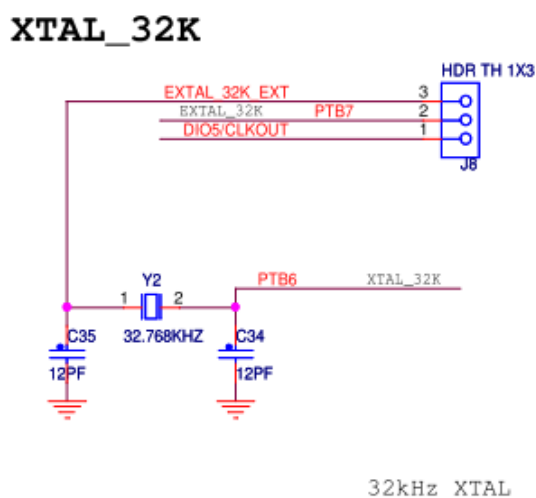

Figure 3-6. 12311-MRB 32.768 kHz Optional Oscillator Circuit
- Optional 32.768 kHz Crystal Oscillator - Provision is also made for a secondary 32.768 kHz crystal Y2 (see Figure 3-6). This oscillator can be used for a low power accurate time base.